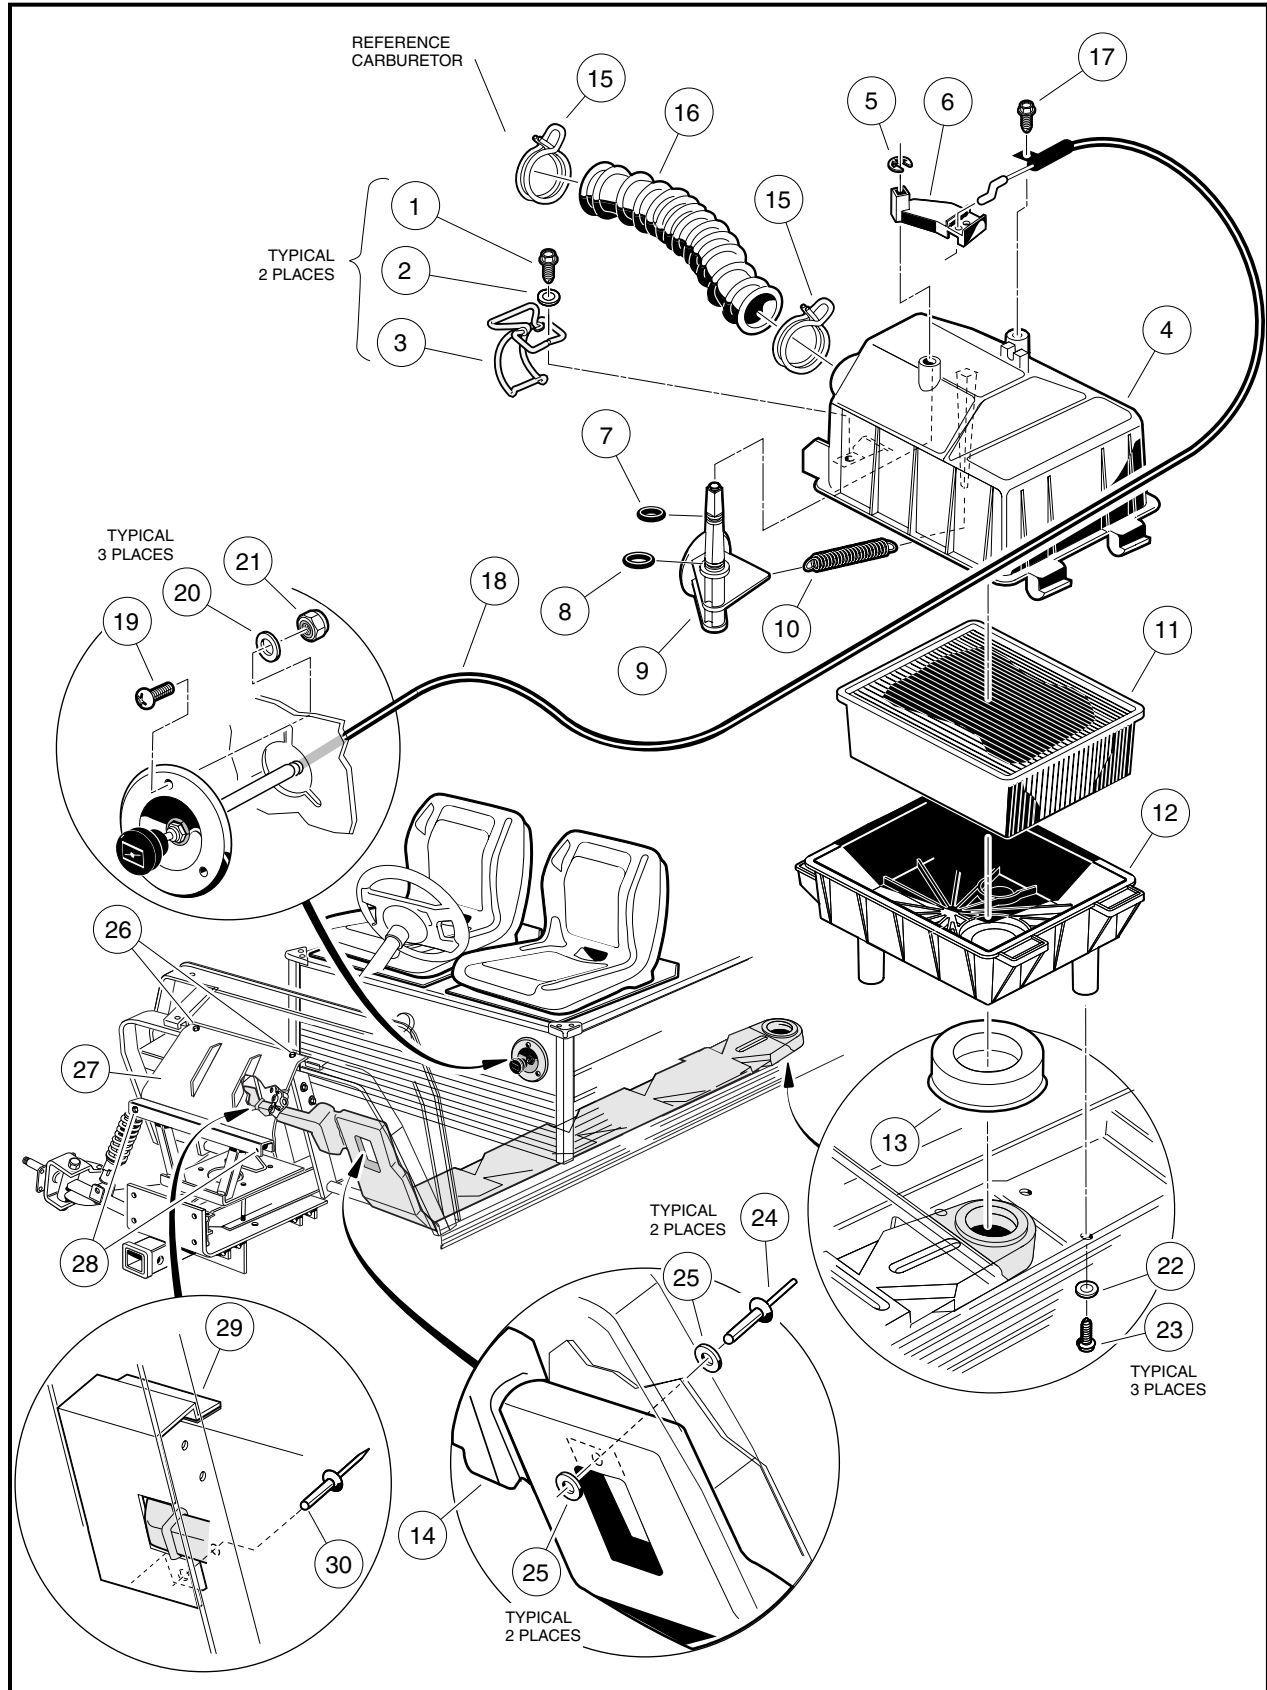
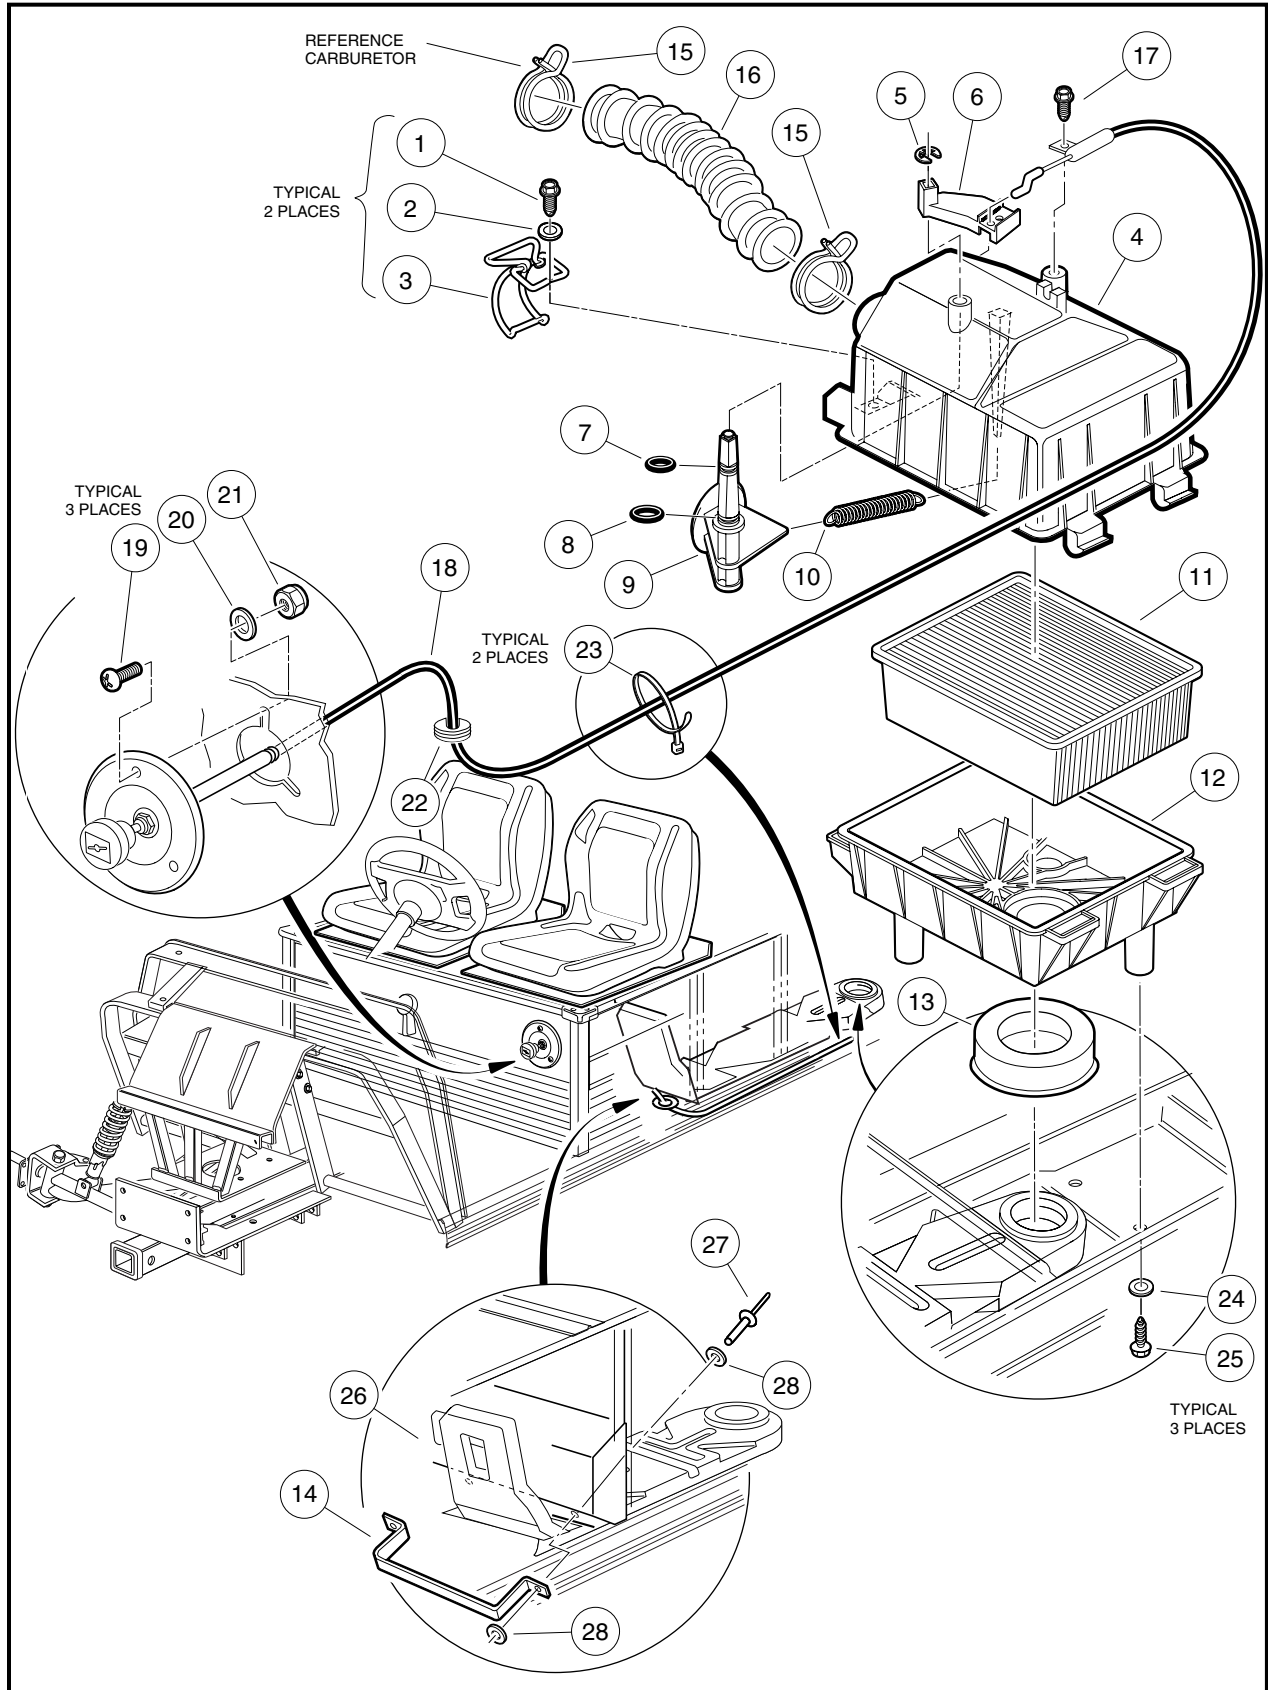

Figure 14-10 Bobcat 2100 Air Intake and Choke Assemblies
Figure 14-11 Bobcat 2100S Air Intake and Choke Assemblies
- 2.13. Drill out the pop rivet (24) securing the top of the intake duct to the floorboard (**Figure 14-10, Page 14-18**).
- 3.1. Remove the air box assembly (**Figure 14-11, Page 14-19**). **See Air Box Removal on page 14-11.**
- 1.2. Secure the front of the duct to the underside of the floorboard with pop rivet (24) and flat washers (25) (**Figure 14-10, Page 14-18**).
- 1.6.1. Attach each of the front A-arms to the to the shock tower at the top shock mount and bottom hole locations of the strip plate (27) using bolts (28) and lock nuts. Do not tighten (**Figure 14-10, Page 14-18**).
- 2.2. Attach strap (14) on each end with 3/16-inch x 1/2-inch pop rivets (27) and washers (28) (**Figure 14-11, Page 14-19**).
2. Lift two latches (3) on the side of the air box (**Figure 14-10, Page 14-18 or Figure 14-11, Page 14-19**).
3. Remove the hose clamp (15) from the air hose and remove hose from the air box assembly.
4. Stand on the driver side of vehicle, grasp air hose mounting inlet and open and remove filter element (11).
7. Fasten wire latches (3) and make sure latches securely engage the bottom half of the box. **See following CAUTION.**
8. Install hose (16) and hose clamp (15) and make sure clamp ends are located in the 12:00 o'clock position (**Figure 14-10, Page 14-18 or Figure 14-11, Page 14-19**).